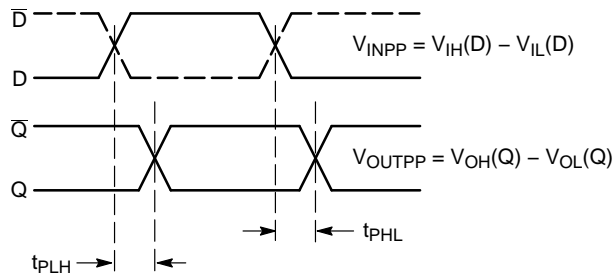

Figure 7. AC Reference Measurement
10. See Figure 7 differential measurement of $t_{skew} = |t_{PLH} - t_{PHL}|$ for a nominal 50% differential clock input waveform @ 250 MHz.